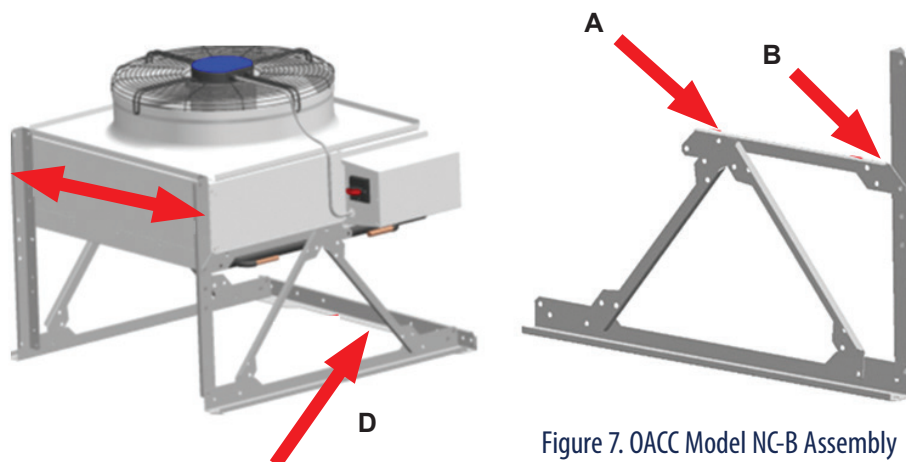

Figure 7. OACC Model NC-B Assembly
- OACC model **NC-B** assembly is shown below in Figure 7:
- ▶ Assemble left and right mount legs as shown with provided bolts, nuts, and washers (except for joint point (A) — it must be bolted to the condenser)
- ▶ Align holes (A) and (B) in the mount legs with the holes in the condenser and attach them with provided bolts, nuts and washers.
- ▶ Attach rear support braces to the condenser with provided self-tapping screws (C)
- ▶ Install the optional front cross piece (D) between left and right leg with provided bolts, nuts and washers;